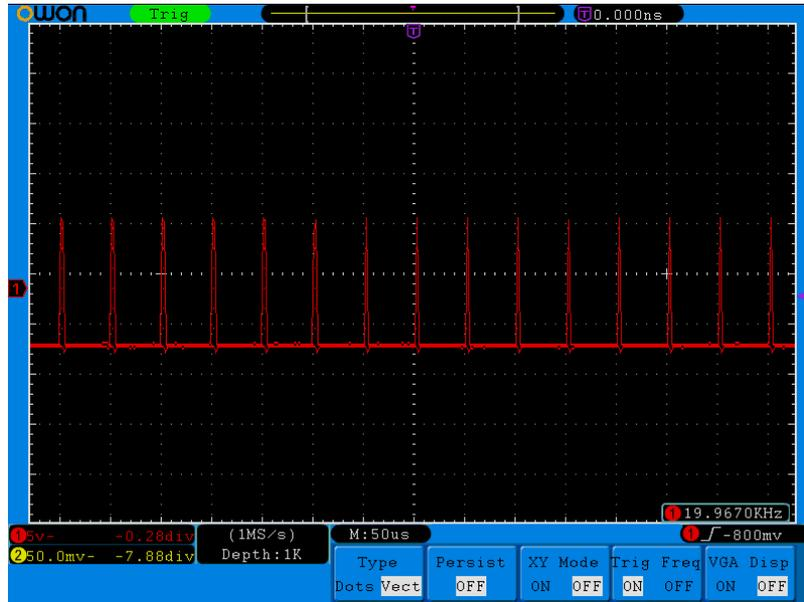

Figure 2: Waveform of sweep rate and error inspection
A. As shown by Figure 2 connected, the CH1 set as follows:
B. Make the time scale of the oscilloscope calibrating in line with sweep rate (time division) and adjust the trigger level to display stable waveforms. And press “T ERROR”, turn fine-tuning knob to make the time scale superpose with the level of calibration line(as figure 2),the error is the error value of sweep rate.(S03A calibration is pointer header that the indicated value is the correction to the error of sweep rate and the error should be anti-symbol.)